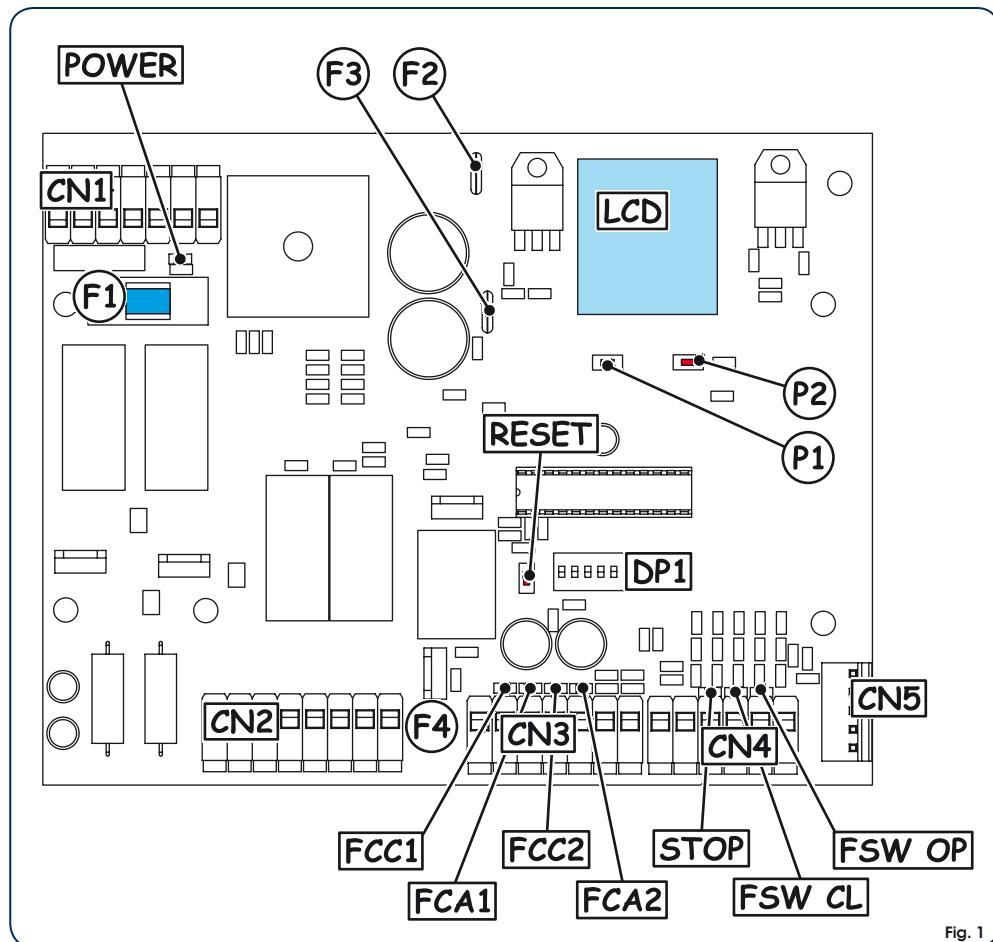

Fig. 1
4. LAY OUT SCHEDA (Fig. 1)	pag.3